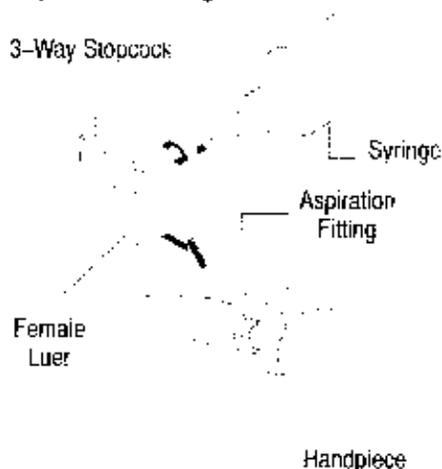

Figure 5-5. United Kingdom Flushing Set-Up.
- M. Refill the syringe with 50cc (ml) of warm distilled or deionized water (see figure 5-5 on page 5-19).